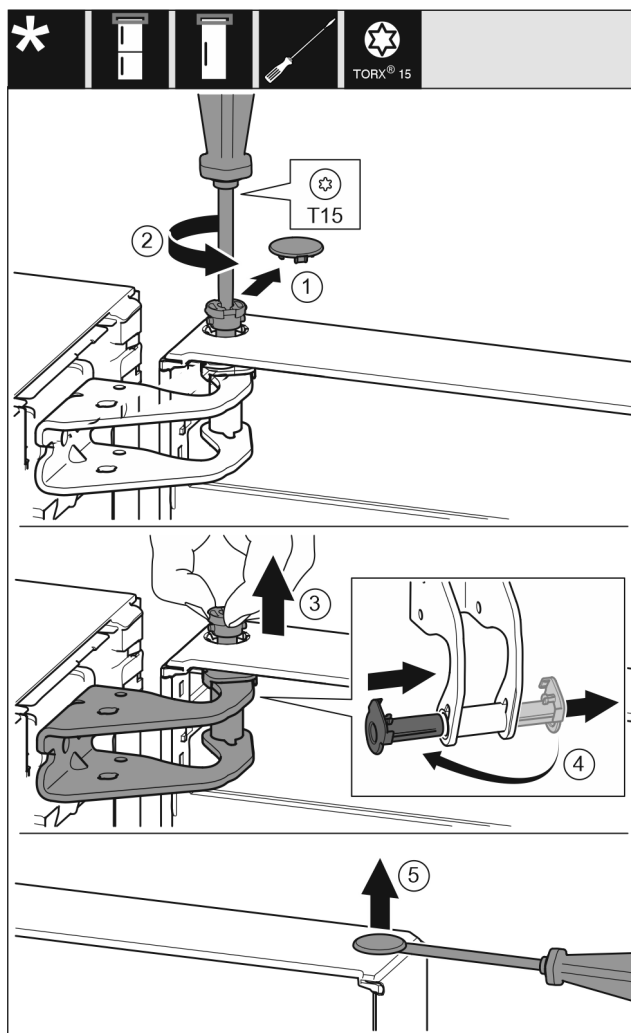

Fig. 9
- Carefully remove the protective cover. Fig. 9 (1)
- Loosen the bolts slightly with a T15 screwdriver. Fig. 9 (2)
- Hold the door and remove the bolts with your fingers. Fig. 9 (3)
- Pull the bearing bush out of the guide. Insert from the other side and latch into place. Fig. 9 (4)
- Carefully lift the plugs out of the door bearing bush with a slotted screwdriver and remove them. Fig. 9 (5)